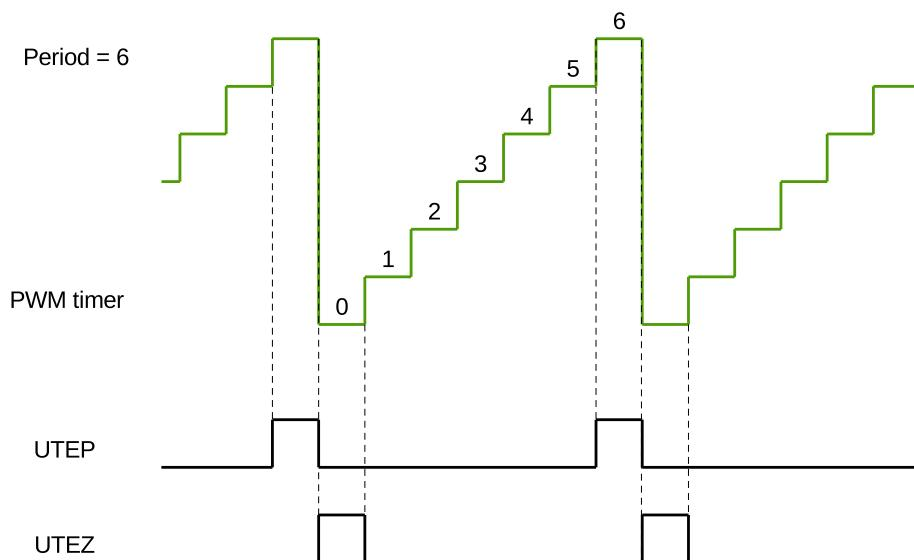

Figure 16-11. UTEP and UTEZ Generation in Count-Up Mode
Figures 16-11 to 16-13 show the timing waveforms of U/DTEP and U/DTEZ.
1. UTEP and UTEZ do not happen simultaneously. When the PWM timer is in count-up mode, UTEP will always happen one cycle earlier than UTEZ, as demonstrated in Figure 16-11, so their action on PWM signals will not interrupt each other. When the PWM timer is in count-up-down mode, UTEP will not occur.